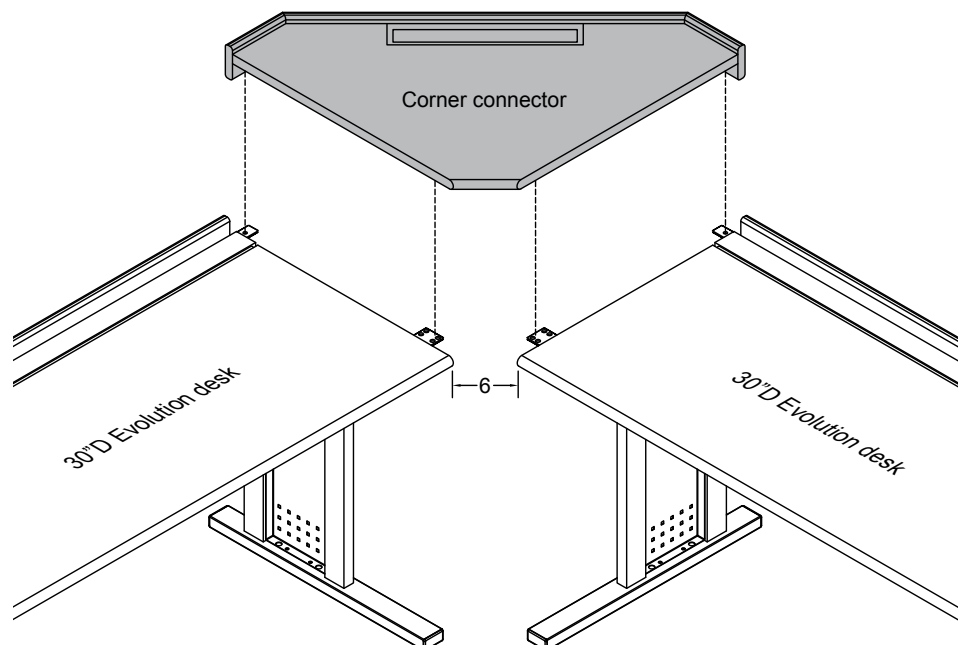

Figure 3
1. Align both desks 90° to each other leaving about 6" between the corners as shown in **Figure 3**.
3. Attach with (6) 1/4-20 x 5/8" PHM screws, but do not tighten completely-after the screws are started, alignment of the desks may be necessary.